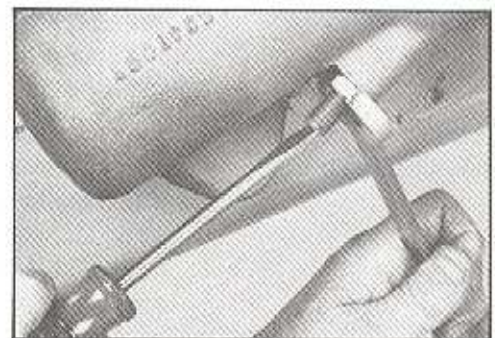

Figure 39
- 4.4 Once you have determined which poppet to adjust, loosen the poppet adjusting screw jam nut (6 or 49) and the poppet adjusting screw (9 or 48) until the pressure gage reads maximum system pressure with steering wheel at full lock. SEE FIGURE 39.